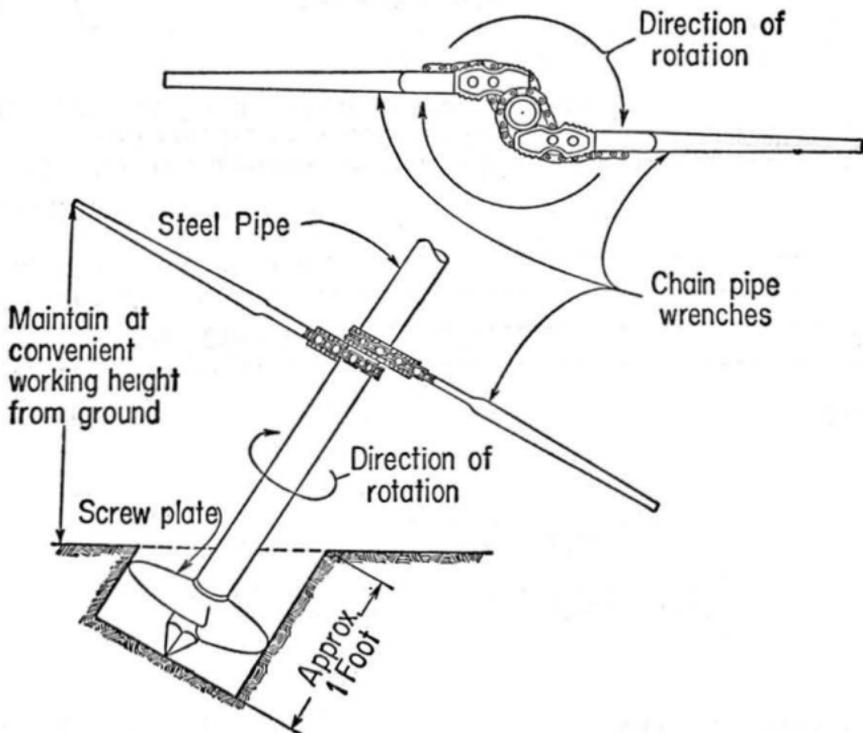

Fig. 2
- (a) Dig a hole about one foot deep and large enough to take the screw plate to be used. Place the screw plate, with pipe attached, in the hole and align the pipe with the direction of the guy. The start of the installation is shown in Fig. 2.